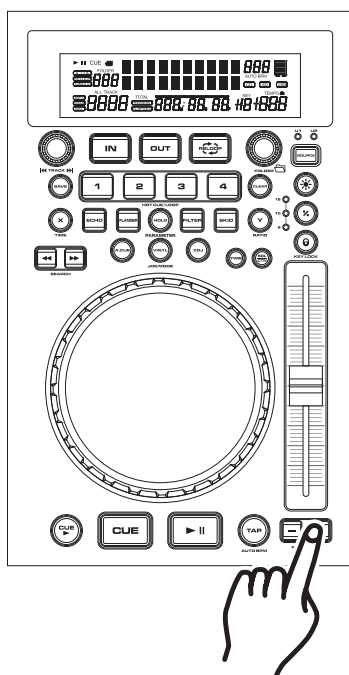

Figure 30
The (+) PITCH BEND BUTTON (11) will increase track playback speed and the (-) PITCH BEND BUTTON (11) will decrease track playback speed. The extent to which the speed changes is proportionate to the amount of time the button is pressed. For example, if the (+) PITCH BEND BUTTON (11) is held down continuously as in figure 30, the audio speed will increase and will continue to increase until it reaches a maximum of 16% speed gain. When you release the (+) PITCH BEND BUTTON (11) the audio speed will automatically return to its previous set speed.